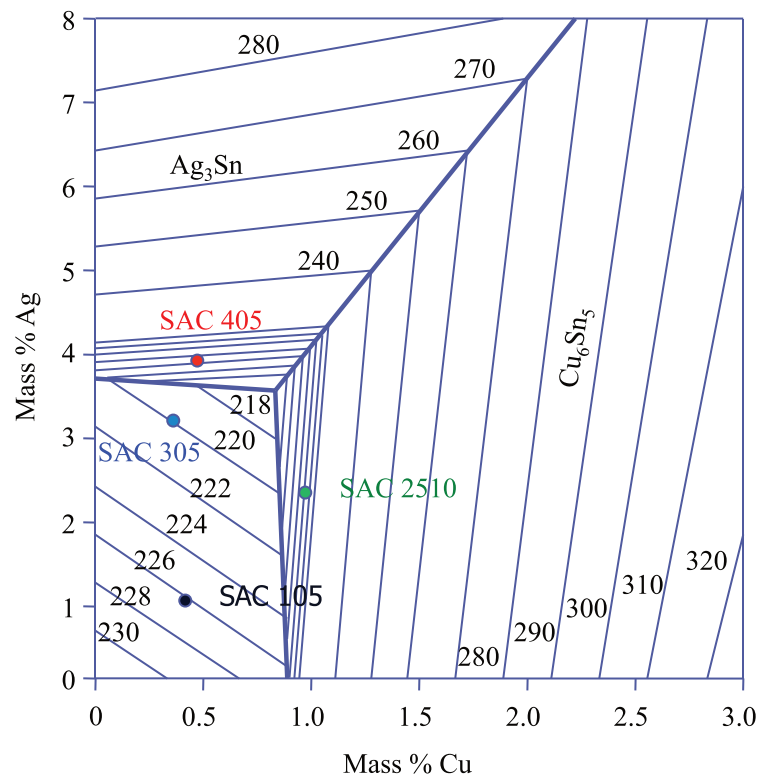

Figure 2. Ternary Phase Diagram for Tin-Silver-Copper
leads to higher polishing pressures in recessed areas and is especially true in the middle of wide exposed regions. There is a strong dependence on pattern density, which makes this problem worse for lower density areas and for large linewidths. The solutions include minimizing the over-polish time to optimize thickness uniformity, removal rate uniformity, and to optimize endpoint detection. If these solutions are not working, then the layout engineers may need to add CMP dummy features to the chips to address pattern density problems. In figure 2 we show the dishing effect in copper metallization. Since the copper is softer, it forms a concave structure in regions where the copper deposition is wide, leading to artifacts in the trenches, like we show in the bottom portion of the graphic. Some additional solutions include using stiffer polishing pads, reducing the down force or pad pressure, moving to an abrasive-free polishing process, switching to electrochemical mechanical polishing, using a non-selective slurry for the tantalum liner film and overpolishing, or moving to linear polishing tools with harder pads that can achieve the same removal rate but at reduced pad pressure.
Figure 2. Origin of the dishing effect in CMP (top) polishing pad flexes into trench opening; (middle) formation or concave surface; (bottom) trench area remains “dishes” after CMP.
Tin by itself can be etched with a 5:100 ratio of Nitric Acid ( $\text{HNO}_3$ ) and Methanol ( $\text{CH}_3\text{OH}$ ), and silver by itself can be etched in a 5:2 ratio of Ammonium Hydroxide ( $\text{NH}_4\text{OH}$ ) and Hydrogen Peroxide ( $\text{H}_2\text{O}_2$ ). However, we note that tin is the primary constituent in a SAC solder, comprising 95+% of the alloy, and SAC 305 and 405 solders do not develop bulk phases with copper (see Figure 2). Therefore, it is easiest to develop an etch solution based primarily from Nitric Acid and Methanol. Some engineers will add Hydrofluoric Acid (HF) and/or Water ( $\text{H}_2\text{O}$ ) in place of the Methanol to help clean the bond pad site. One should not use Hydrogen Peroxide ( $\text{H}_2\text{O}_2$ ) in the etch formulation as it will attack the titanium in the Under Bump Metallization (UBM) to some degree. For more details on etching devices with lead-free solder bumps, we encourage the reader to review "Wet Etch Recipe Development for Removing Lead-Free C4 Bumps," [1] which was presented at the 2009 IPFA Conference.